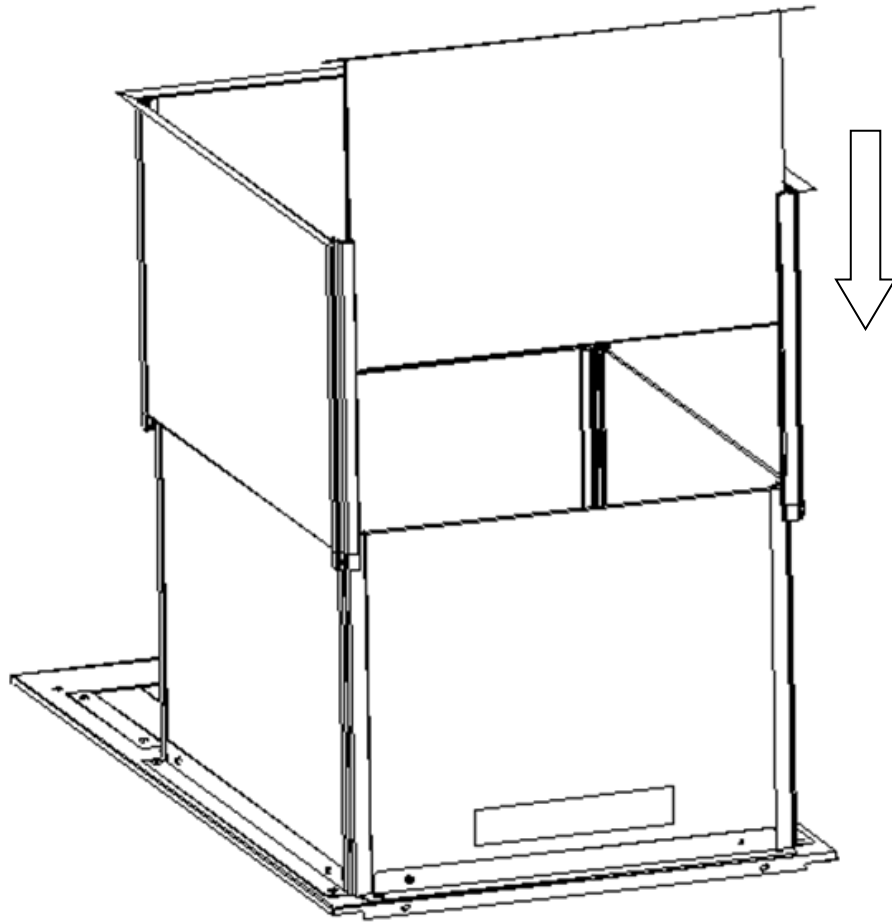

Fig. 7
7. Insert the last outside panel, then use 6 pcs M3 pink screw to install last outside panel(Fig. 7)